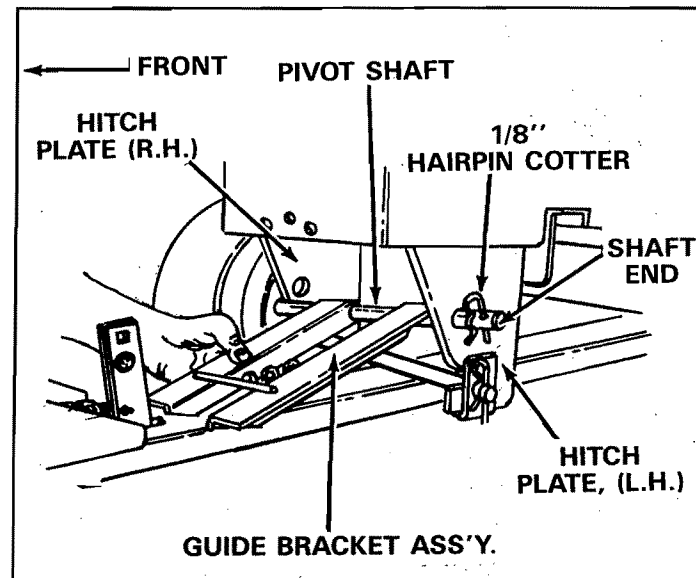

FIGURE 17
17. Assemble guide bracket assembly **shaft end** into the left hand hitch plate. See figure 17. Slide guide assembly back to the right and into hole of the right hand hitch plate. Secure with a 1/8" (large) hairpin cotter in each end. See figure 17. Lower front end of guide bracket assembly to straddle channel assembly.